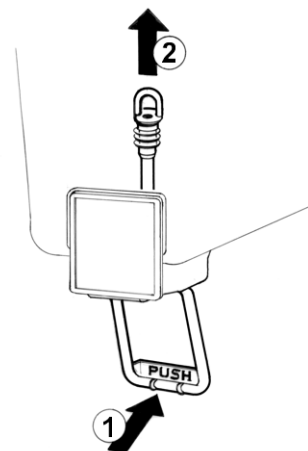

figure 3
5 Pinch tube faucet: push the dispensing handle (1) and take the pinch tube off from its seat (2) (see figure 3).